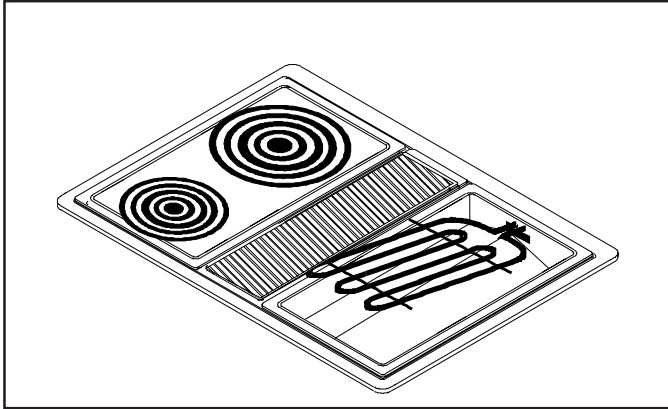

Figure 28
3. See Figure 28. Hold grill element with terminals pointing toward rear of cooktop.